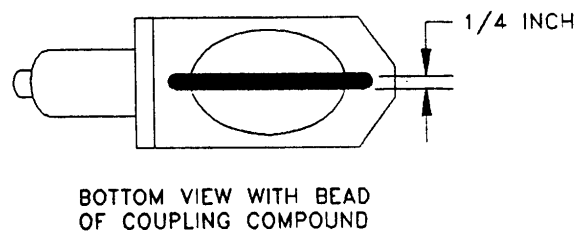

Figure 2.9 Transducer Couplant Application
2. Place a single bead of couplant, approximately 0.25 inch [6 mm] thick, on the flat face of the transducer. See **Figure 2.9**. Use Dow 732 for permanent and Dow 44 for temporary (less than six months) installations.